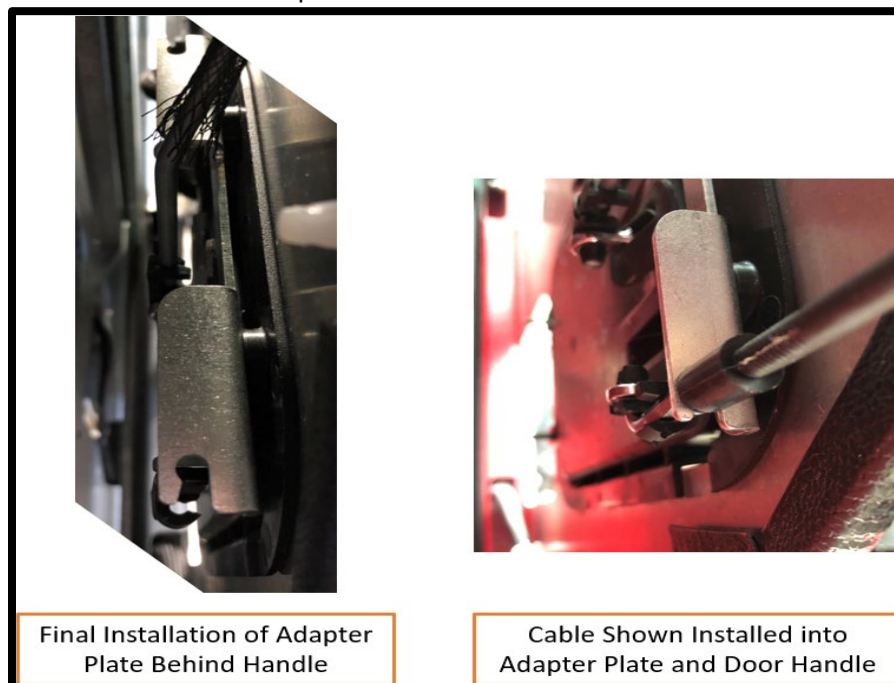

Figure 4
11. Connect cable end to handle, push retainer end of cable into retainer (Figure 4).